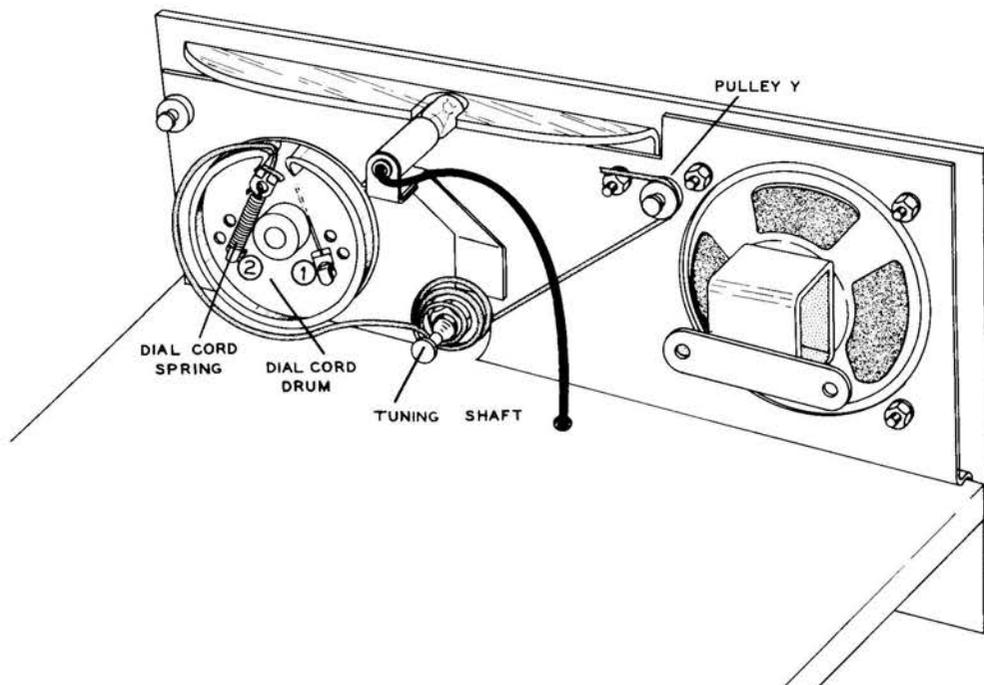

Figure 3R (2)
Refer to Figure 3R (1) for the following steps.
Refer to Figure 3R (2) for the following steps.
- (L) Now route the dial cord below the tuning shaft, and wrap it around the tuning shaft three times.
- (✓) Remove the pilot lamp socket from V5 tube socket hole (see Figure 3S). Now mount it on the dial light bracket so that the #47 lamp fits into the slot in the plastic dial window as it is shown in Figure 3R.